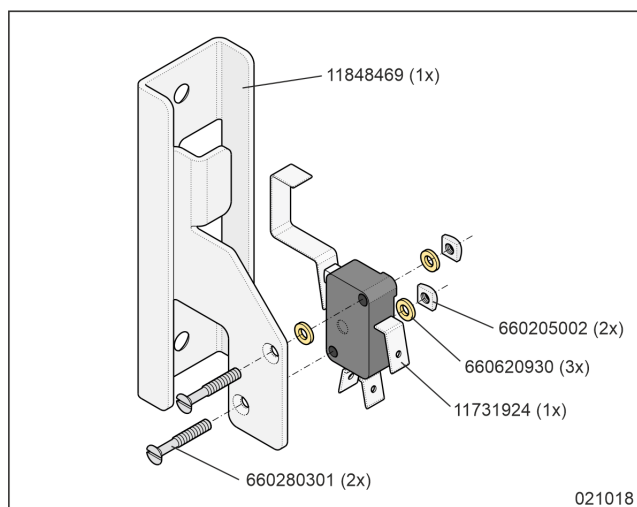

Figure 3
*VH11298189 is the reference number for the microswitch as it is delivered by the manufacturer. Because the straight lever of the microswitch must be folded for our application (refer to figure 3), it gets reference VH11731924.